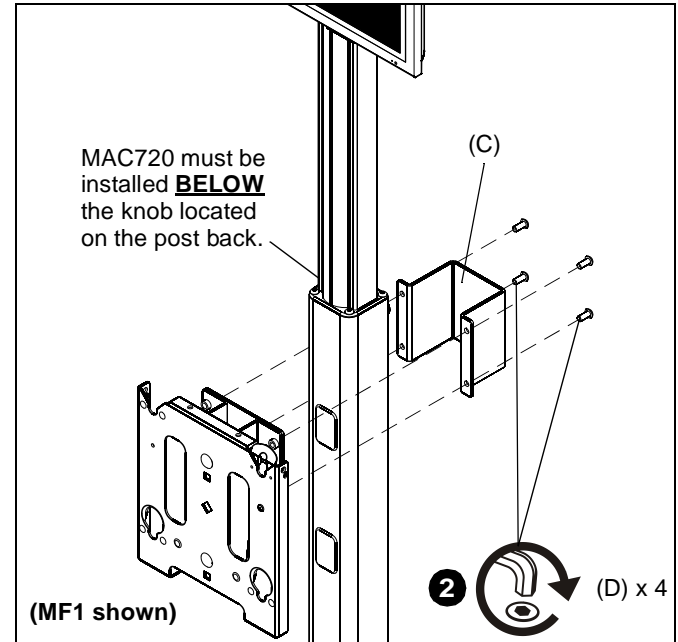

Figure 2
2. Secure faceplate with bracket to clamp bracket (C) using four 5/16-18 x 3/4" buttonhead cap screws (D). (See Figure 2)
- To adjust location of display on cart/stand, support display(s) and carefully loosen four 5/16-18 x 3/4" buttonhead cap screws (D) on each faceplate assembly.
- Slide display(s) up on post to desired position and tighten four 5/16-18 x 3/4" buttonhead cap screws (D) for each faceplate assembly. (See Figure 2 and 4)